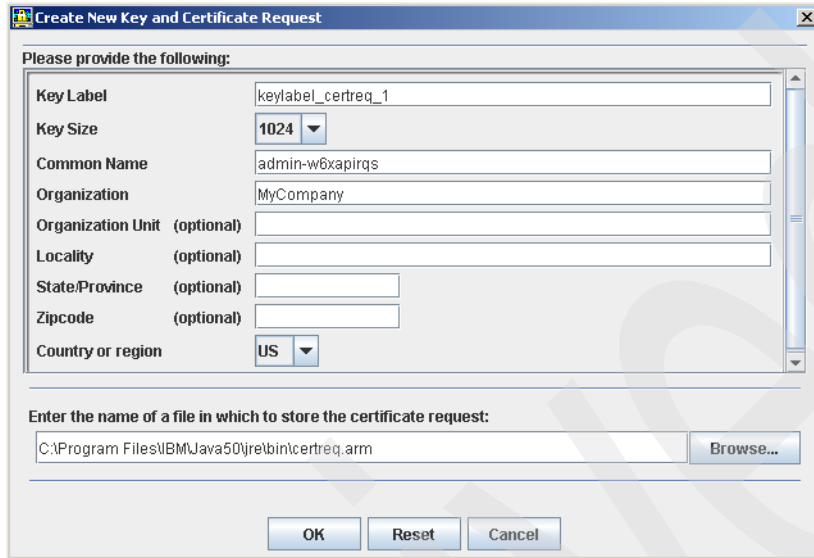

Figure 6-22 Create New Key and Certificate Request window
2. The Create New Key and Create Certificate Request opens (Figure 6-22). Specify a Key Label of your choice that does not contain any blanks. Select **1024** from the Key Size menu. The Common Name field defaults to the computer name, but you can change it. Specify a value in the Organization field. Verify the Country or region. You can change the path and file name where the certificate request is stored. All other fields are optional.